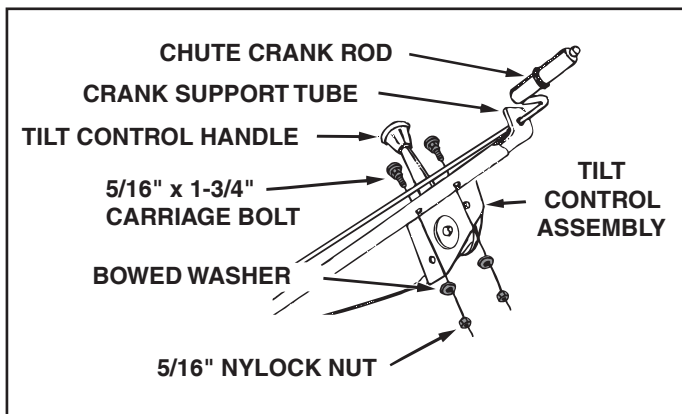

**FIGURE 24**
**STEP 26: (SEE FIGURE 24)**
- Position the crank rod spiral (see figure 24 on page 14) so that it does not rub against the bottoms of the notches in the chute flange. **Tighten** the nuts.